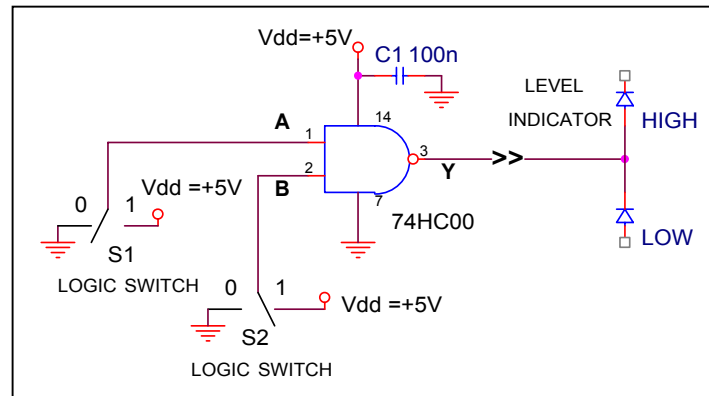

Figure 5.8 The 2-input NAND gate.
- 1.2.1. Connect the 2-input NAND gate (74HC00) as shown in Figure 5.8. Remember to leave the Power Supply turned off, until you are sure that your circuit is wired correctly. Connect the Y (output) of the gate to the Logic Level Indicator. Attach the input A to the connector of LOGIC SWITCH S1 and input B to the connector of LOGIC SWITCH S2 at the bottom left of your PROTO-BOARD. To achieve better circuit stability, connect capacitor C1 between V_{dd} and Ground close to pin 14 of the IC 74HC00.
10	Circuit of Figure 5.8 connected and equipment used correctly